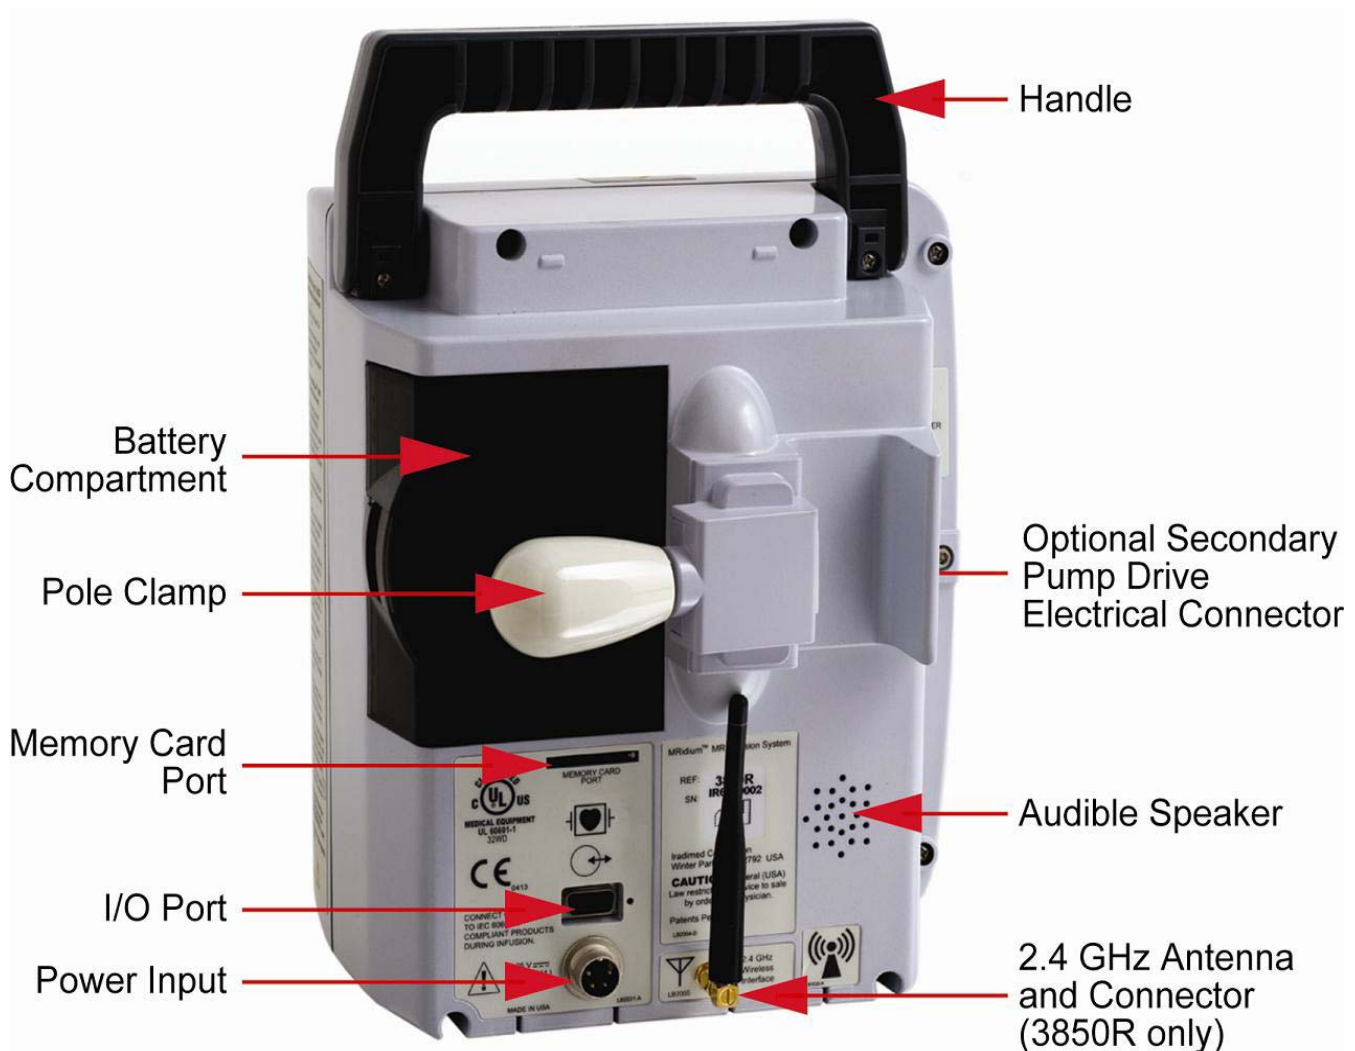
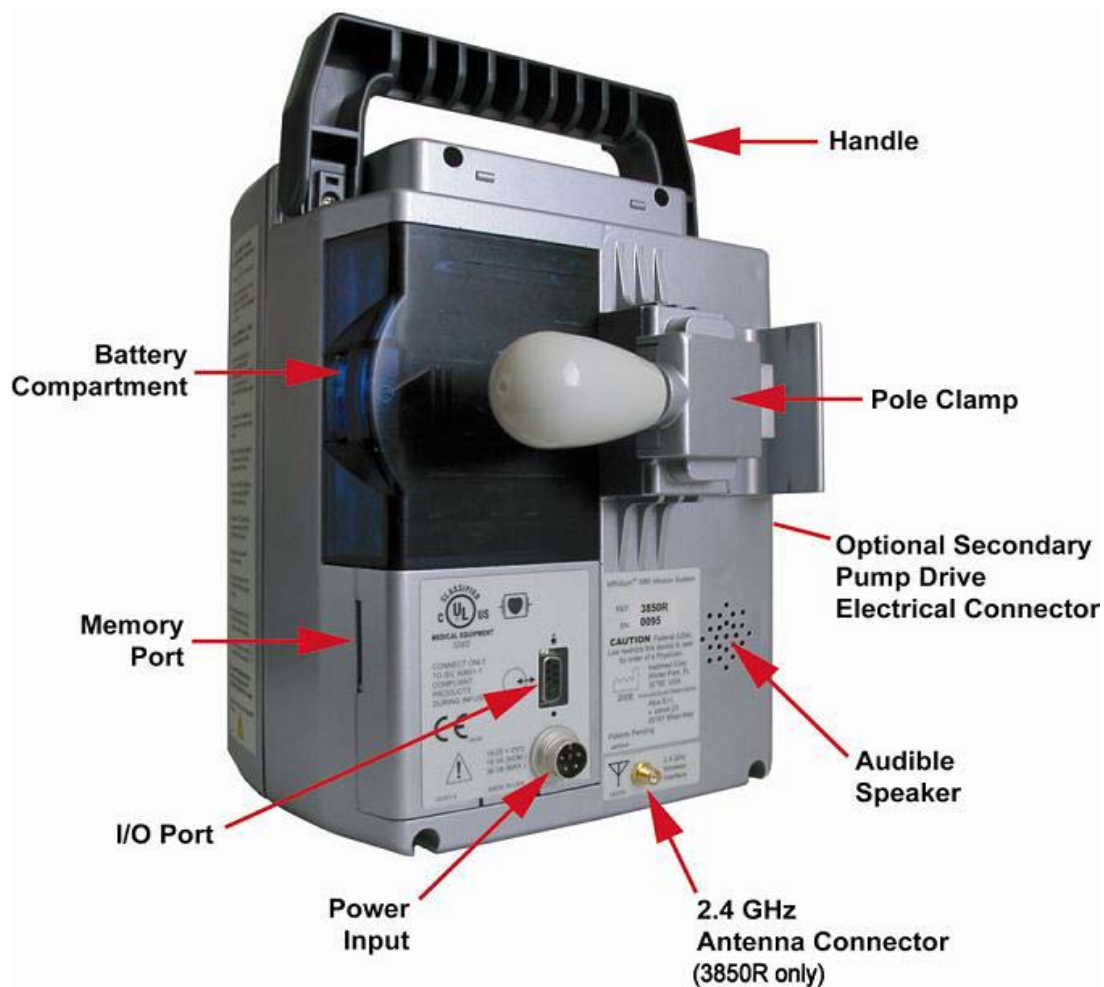

Figure 1-3. Back of Pump (Version 2)
Figure 1-4. Back of Pump (Original Version)
1.1.3 Back of the Pump. See Figure 1-3 (Figure 1-4) for the location of the major components on the back of the pump.